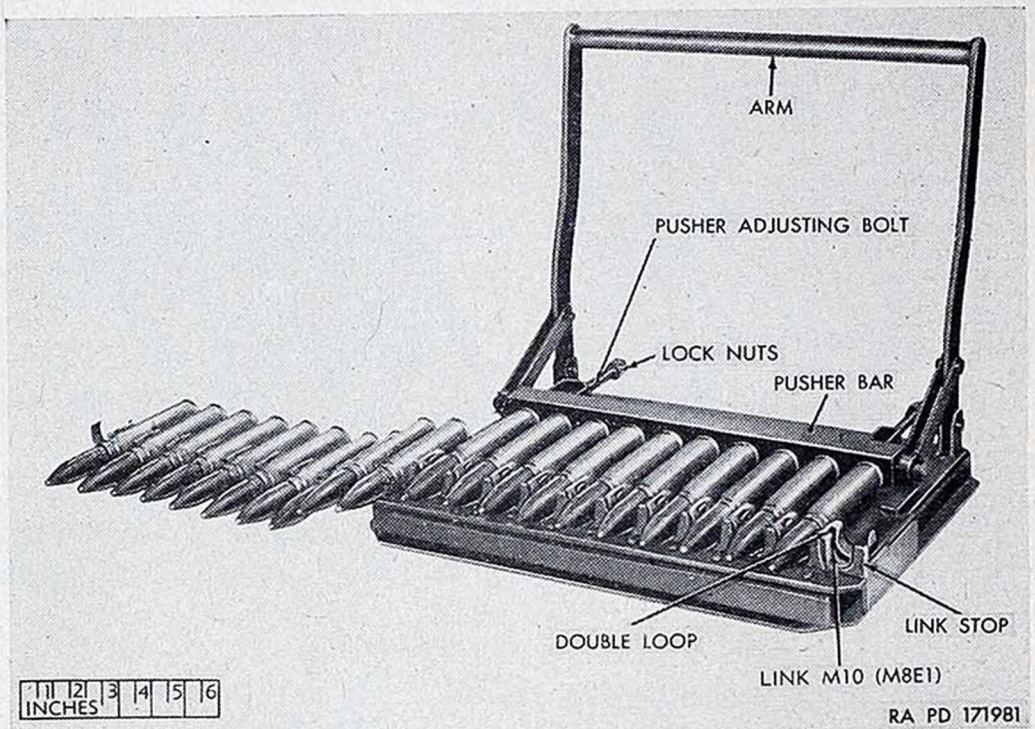
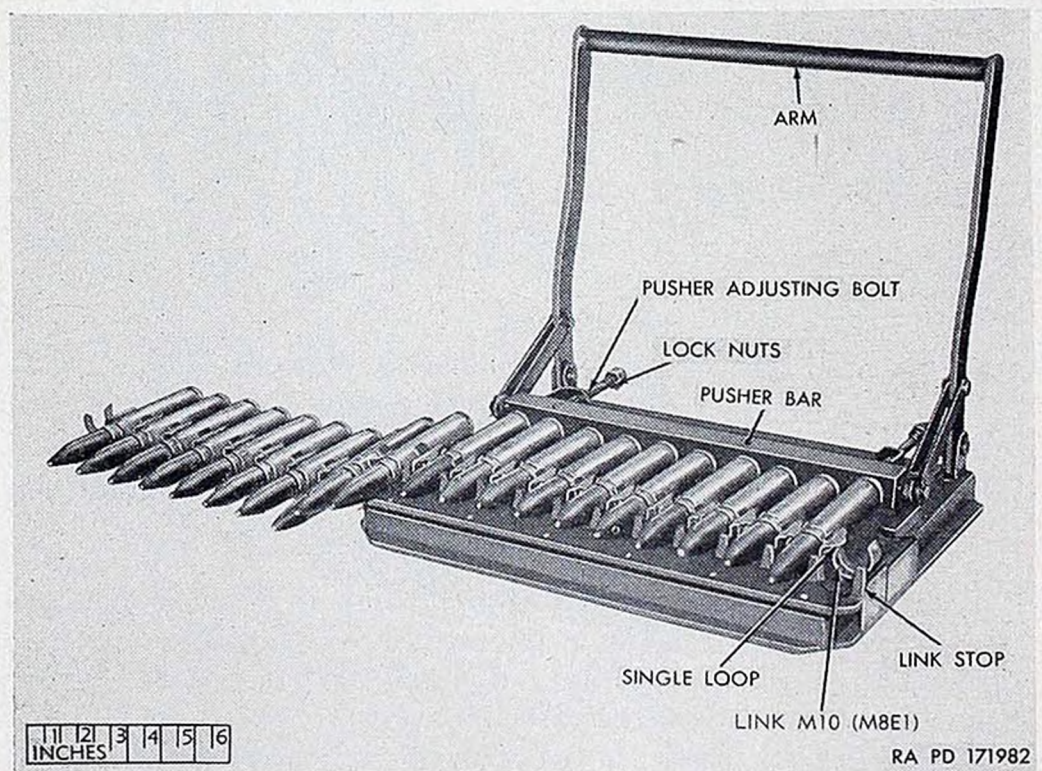

Figure 29. Belting ammunition for right-hand feed, using 20-mm ammunition linking machine M13.
Figure 30. Belting ammunition for left-hand feed, using 20-mm ammunition linking machine M13.
a. *Adjustment.* The machine is provided with four lock nuts and two pusher adjusting bolts on the pusher bar (figs. 29 and 30) to regulate the length of the stroke. These should be set so that the distance between the face of the pusher bar and the rear of the link stop is $3\frac{11}{16}$ to $3\frac{13}{16}$ inches when the cartridge pusher assembly is in the forward position. This adjustment must be made prior to the loading of the belts.
b. For Single-Loop Right-Hand Feed (fig. 29).
- (1) Inspect the links and lubricate them as directed in paragraph 19a (2).
- (2) Cartridge cases are coated with a wax film at manufacture. They should be kept clean and free of dust and dirt and shaded from direct rays of the sun.
- (3) Place 11 links M10 (M8E1) in a continuous row along the link guide, with their open sides up, and with double loops to the right and single loops positioned between the double loops.
- (4) Place 10 cartridges in the 10 central grooves of the cartridge guide, with their noses resting in the links.
- (5) Pull the cartridge pusher arm down with a steady pressure until the stroke is stopped by the lock nuts on the two pusher adjusting bolts.
- (6) Push back the pusher arm. Lift out the 10 cartridges, which are now linked together, and place the left-end cartridge in the right-end groove. Place additional links and cartridges in the guides and repeat the operations until the belt is of the desired length.
- (7) Test belt for flexibility and oversize links as directed in paragraph 19b (3) and (4).
c. For Single-Loop Left-Hand Feed (fig. 30).
- (2) Cartridge cases are coated with a wax film when manufactured. They should be kept clean and free of dirt and dust and shaded from direct rays of the sun.
- (3) Place 11 links M10 (M8E1) in a continuous row along the link guide, with their open sides up, and with double loops to the left and single loops positioned between the double loops.
- (5) Pull the cartridge pusher arm down with steady pressure until the stroke is stopped by the lock nuts on the two cartridge pusher adjusting bolts.
- (6) Push back the cartridge pusher arm. Lift out the 10 cartridges, which are now linked together, and place the right-end cartridge in the guides, and repeat the operation until the belt is of the desired length.